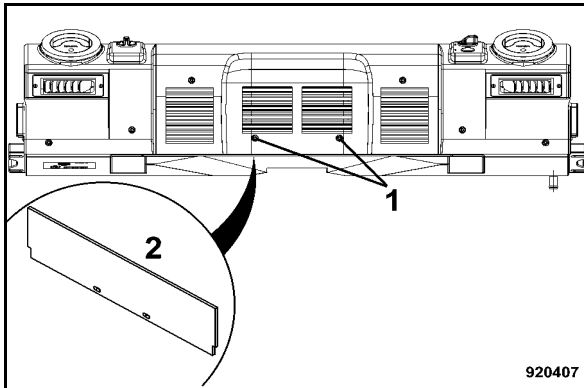

Fig. 161
- Unscrew screws (1) (Fig. 161).
- Pull the filter (2) downwards out.